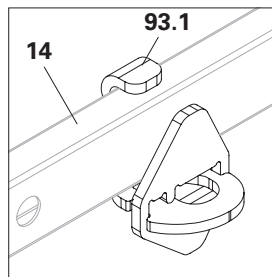

Fig. A11.06c
1. Place the suspension (**93.1**) of the Ledger-to-Ledger Coupler UHA (**93**) on the horizontal ledger (**14**) and hold it with one hand. (Fig. A11.06c)